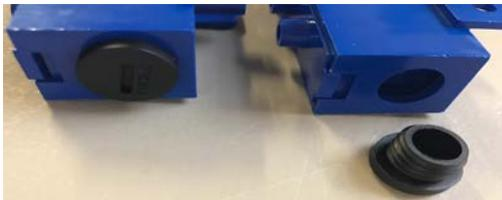

Figure 2
2. Once the last modular section is added, push the nylon connector into the female receiver. It will “snap” into place with sufficient pressure. Refer to Figure 2.